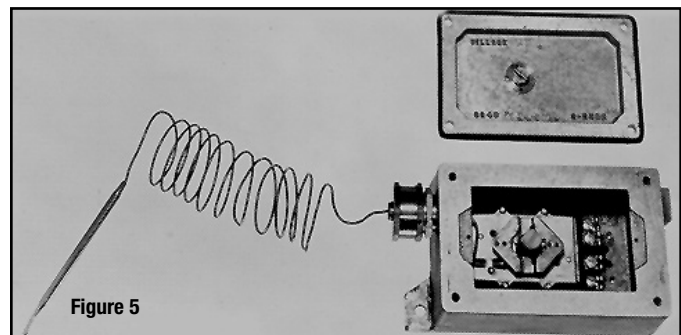

Figure 5
3. Set thermostat knob to OFF position and remove cover plate by loosening and removing four (4) fastening screws (see Figure 5).
2. Remove the enclosure cover by removing four fastening screws (Figure 5).
4. Remove the thermostat mounting screws (2).